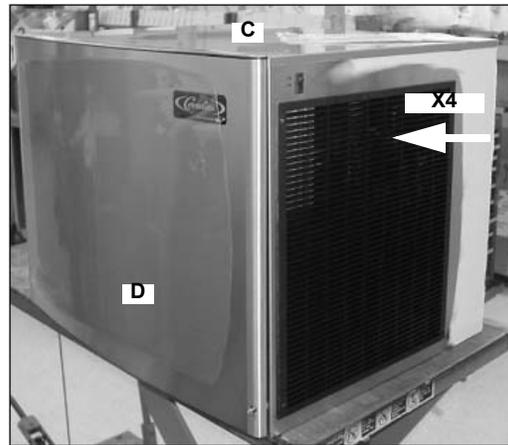

FIGURE 58
68. Replace the top cover (C) and the front panel (D). Attach the louvered panel with (4) black, hex head screws (FIGURE 58).